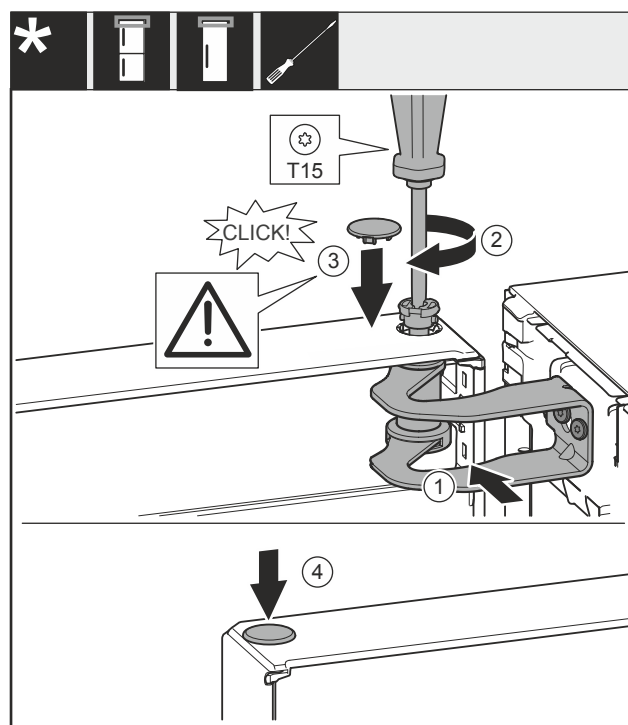

Fig. 25
- Align the door towards the opening in the swap bearing block Fig. 25 (1).
- Insert the pin Fig. 25 (2) and tighten it with the screwdriver.
- Insert the cover Fig. 25 (3).
- Check to be sure that the cover Fig. 25 (3) is positioned on the door.
- Insert the cover Fig. 25 (4).